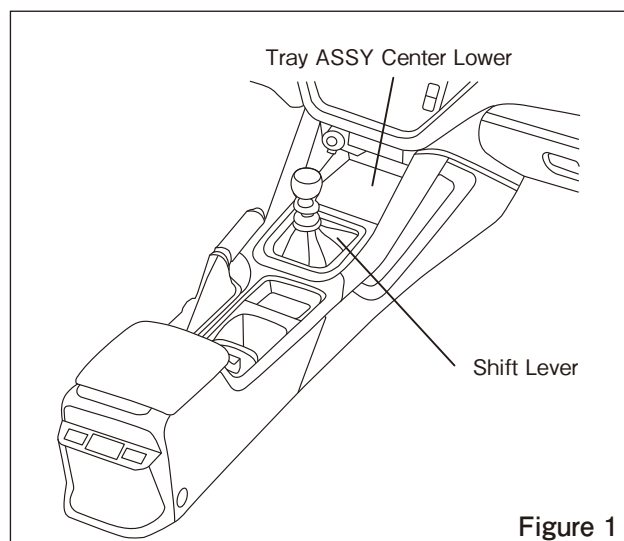

Figure 1
- (1) Remove the Shift Lever (Figure 1)